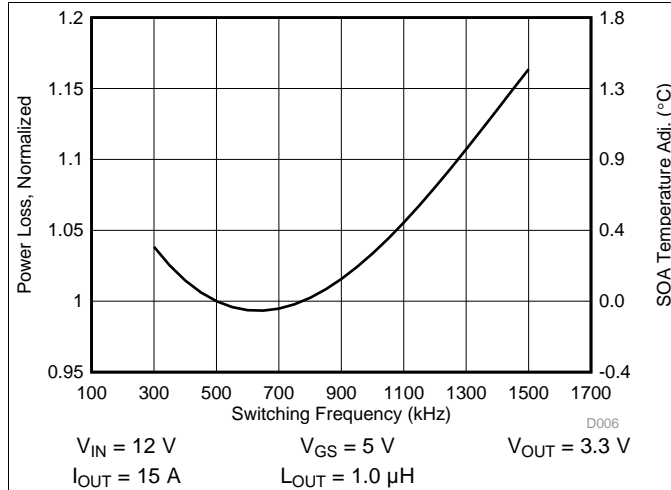

Figure 6. Normalized Power Loss vs Switching Frequency
- Normalized power loss for switching frequency ≈ 1.03 (Figure 6)
- SOA adjustment for switching frequency $\approx 0.3^\circ\text{C}$ (Figure 6)